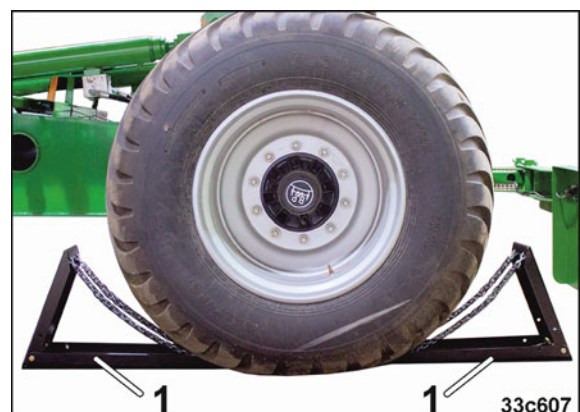

Fig. 146
1. Verify that the implement is secured with wheel chocks (Fig. 146/1).